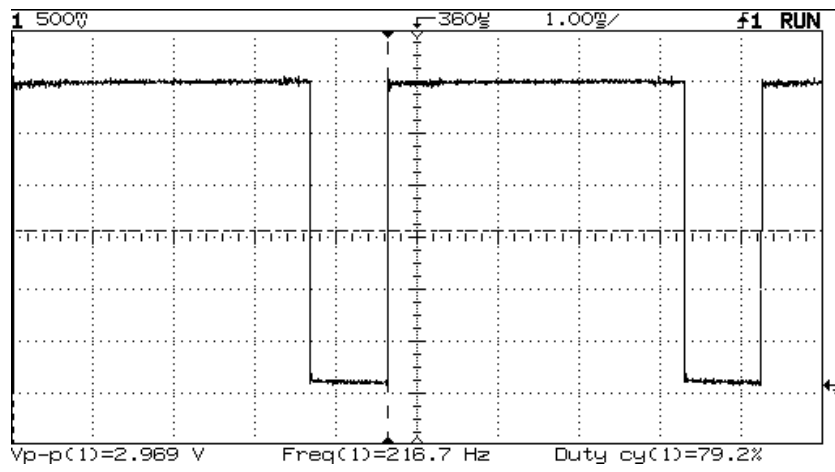

Fig. 3.8 PCN\_LNA Pg. 3-3J TP420
6. **PCN\_LNA** ( Control signal from Superchip pin 30 which switches V\_G\_LNA). See figure 3.8.